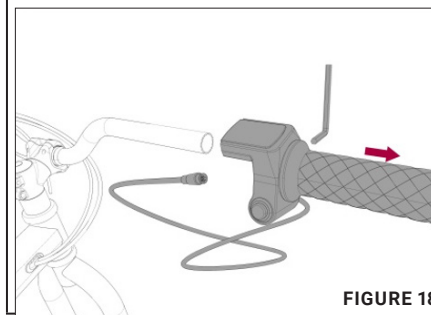

FIGURE 18
7. Replace throttle and tighten fixing screw. [Figure 18]